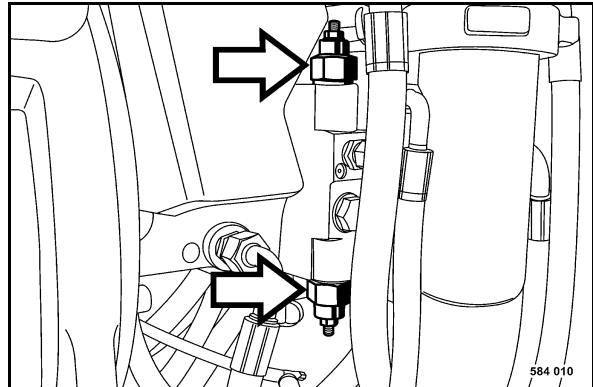

Fig. 110
- Slacken the counter nuts on both high pressure relief valves (Fig. 110) to create a bypass around the travel pump.